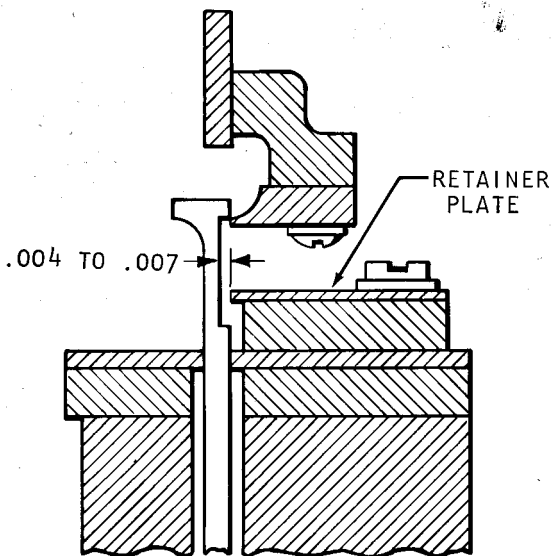

Figure 50. Retainer Plate Adjustment
3. Be sure the punches are not driven against the punch retaining plate (Figure 50).
4. Adjust the retainer plate for .004" to .007" clearance between the plate and the punches (Figure 50).
3. Remove the five holding screws and remove the retainer plate from the punch and stripper assembly (Figure 50).